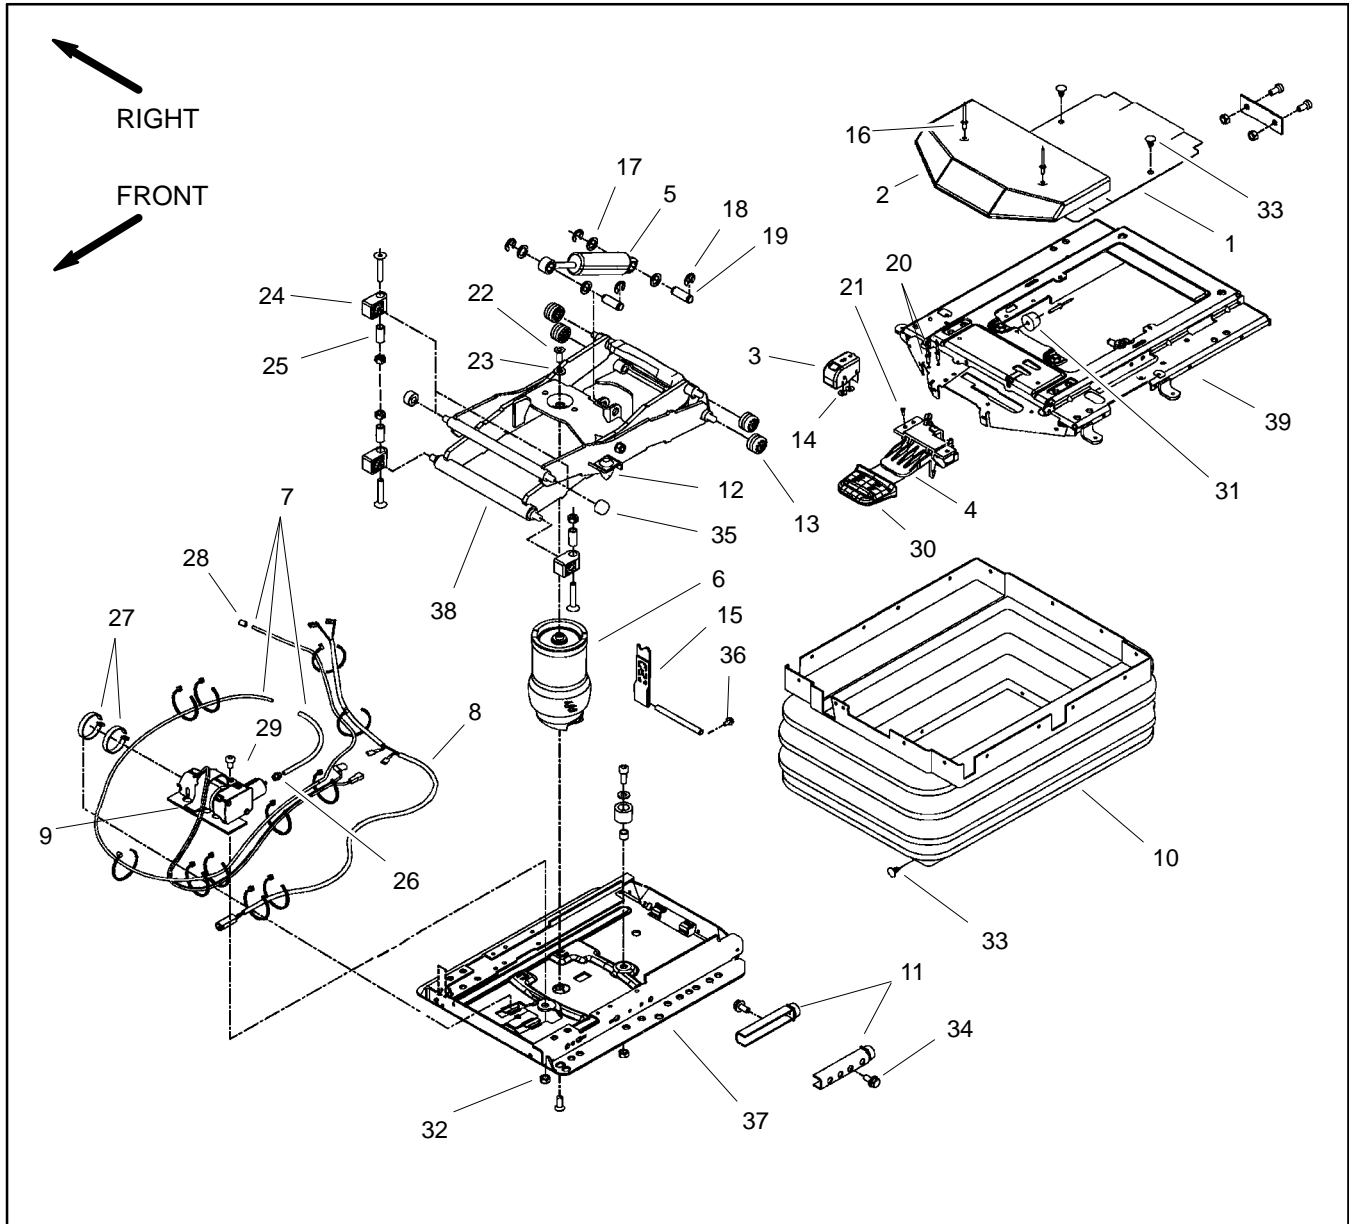
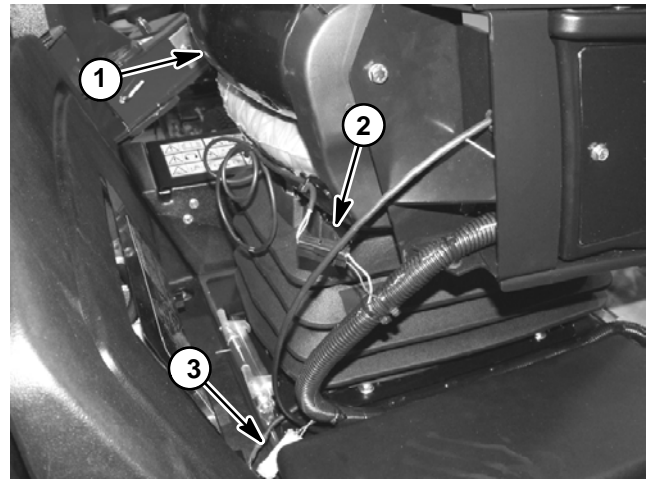
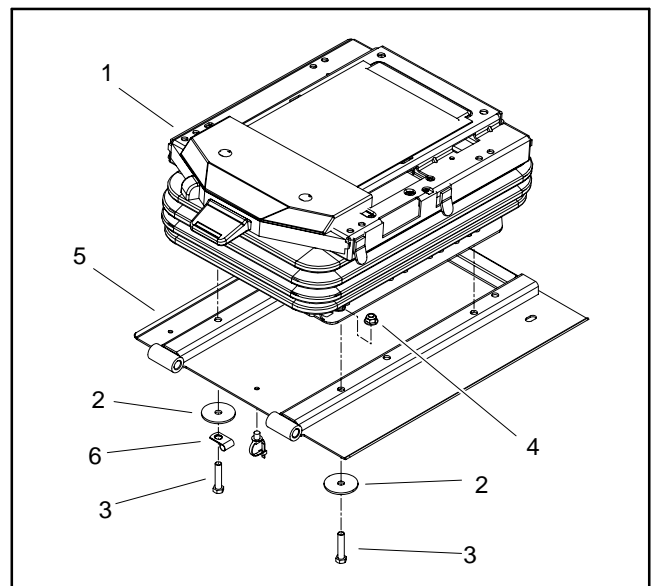

Figure 20
Figure 21
Figure 22
### Disassembly (Fig. 20)
2. Disconnect seat suspension connector from machine wire harness (Fig. 21).
3. If the air spring assembly (item 6) or base plate (item 37) requires removal, remove seat suspension from seat plate (Fig. 22):
- B. Remove four (4) cap screws, flat washers and flange nuts that secure seat suspension to seat plate.
4. Remove seat suspension components as needed using Figure 20 as a guide.
### Assembly (Fig. 20)
1. Install all removed seat suspension components using Figure 20 as a guide.
2. If seat suspension was removed from seat plate, secure suspension to seat plate (Fig. 22):
- B. Secure seat suspension to seat plate with four (4) cap screws, flat washers and flange nuts.
4. Make sure that seat electrical connectors are connected to machine wire harness (Fig. 21).